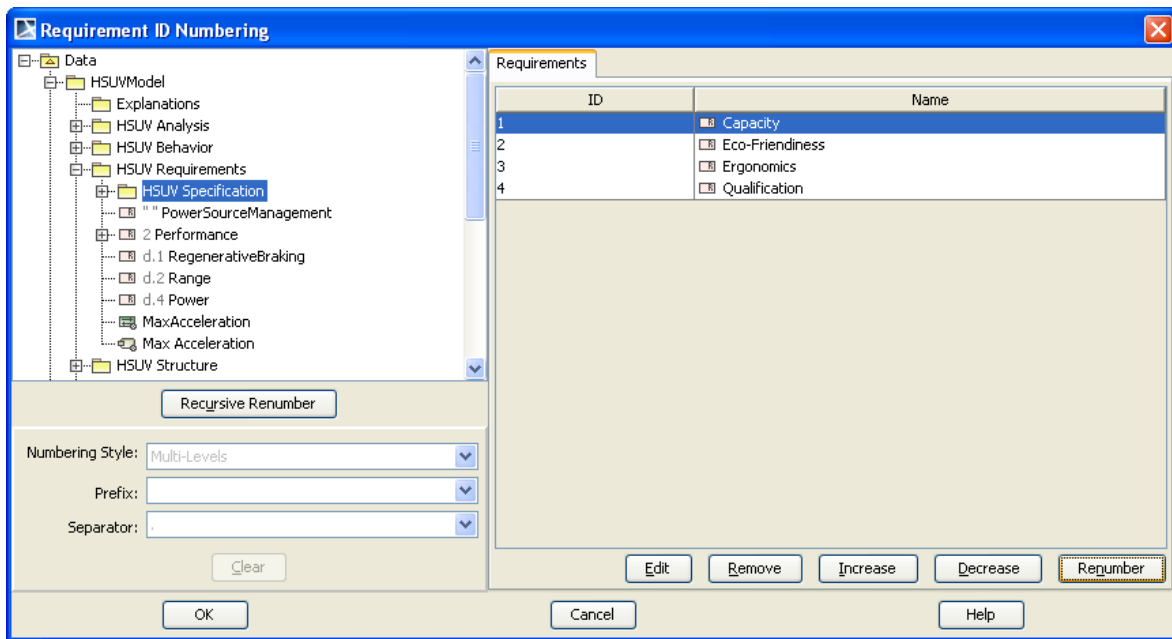
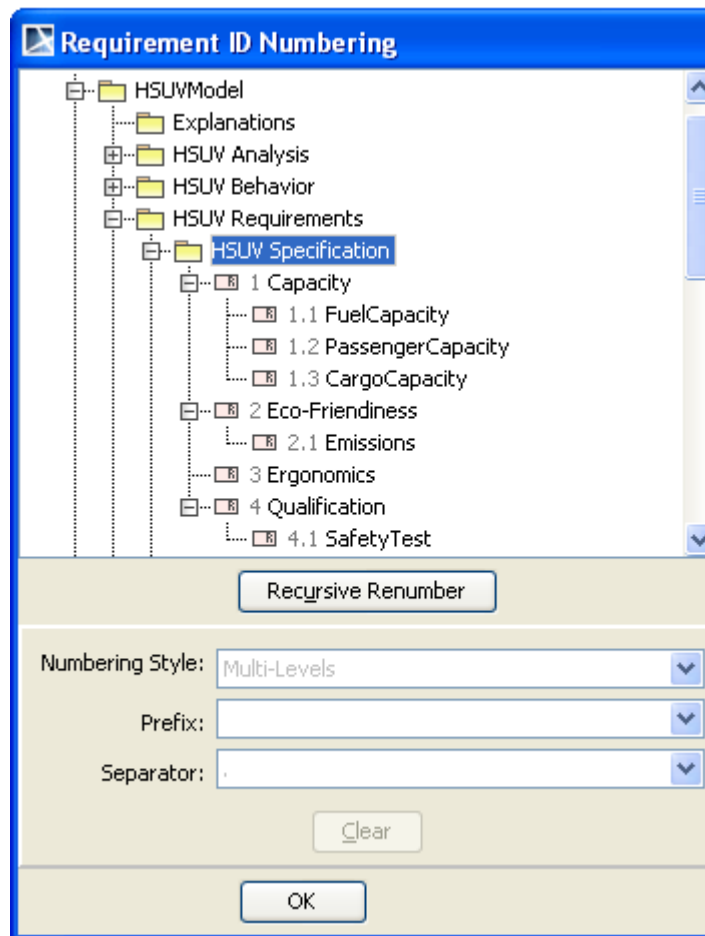

Figure 140 -- Renumbering Requirements IDs
Figure 141 -- Example of Numbered Requirements
4. For example, if you select the **Renumber** button, the requirements under the package selected in the browser on the left-hand side of the dialog will be renumbered using the pre-defined **Numbering Style, Prefix and Separator**, as shown in Figure 140.
5. In Figure 140, the requirements in the 'HSUV Specification' package (under 'Data > HSUV-Model > HSUV Requirements') were renumbered. Since there is no **Numbering Style, Prefix and Separator** values defined in the 'HSUV Specification', 'HSUV Requirements' and 'HSUV-Model' packages, the values defined in the 'Data' package (default) will be used instead (Numbering Style = Multi-Levels, Prefix = "", and Separator = '.'), as shown in Figure 141.
9. Click **OK** (Figure 140) to update the renumbered requirement IDs to your model, or click **Cancel** (Figure 140) to ignore the requirement IDs numbered using this dialog.